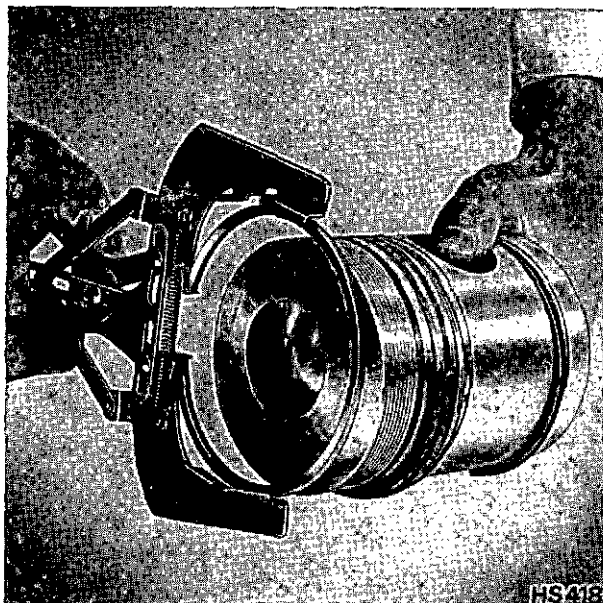

Fig. 97 Fitting Piston Rings
- (b) Fit piston rings as detailed on page 74. (Fig. 97).